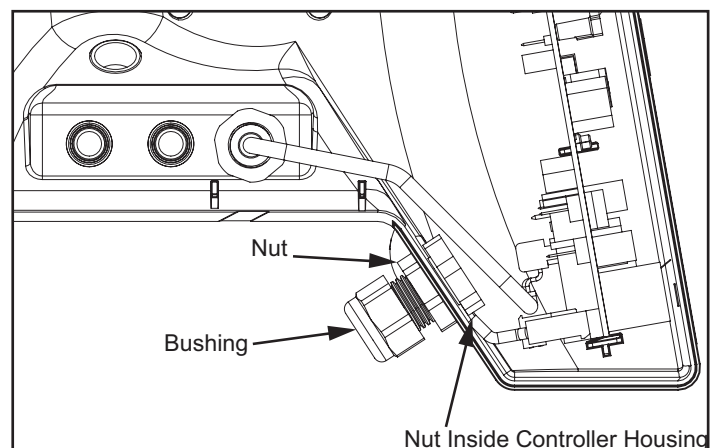

Figure 31. Connector bushing and nut position.
4. Tighten the nut on the interior side of the port opening on the controller enclosure. See Figure 31.